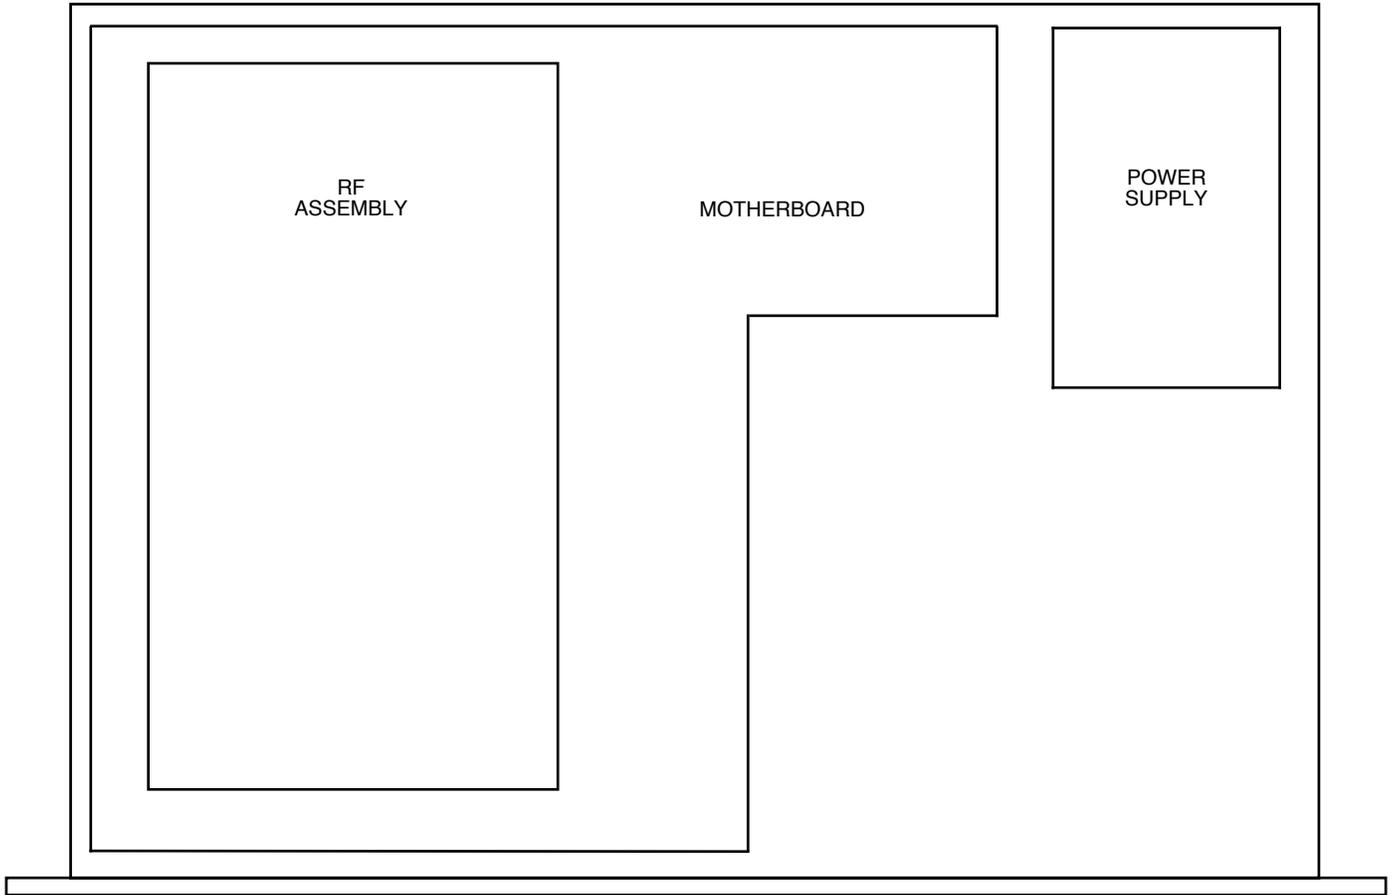

FIGURE 2.0 3116-T291 Mechanical Assembly
2.1 Mechanical - The 3116-T291 Block Translator consists of a controller board and RF plate assembly. A switching ± 12 , +24, +5 VDC power supply provides power for the assemblies. The 3116-T291 can be secured to a rack using the 4 holes on the front panel. Figure 2.0 shows how the 3116-T291 is assembled.